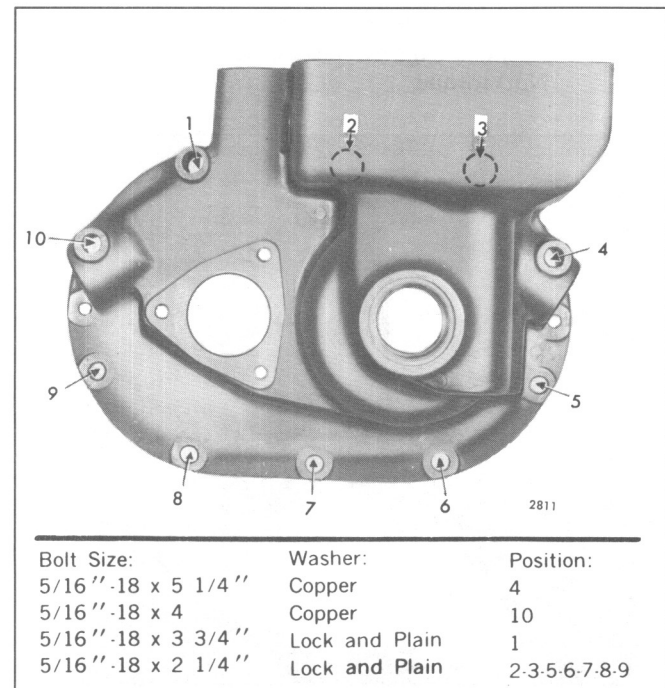

Fig. 27 – Location and Size of Governor Retaining Bolts
6. Refer to Fig. 27 for the locations, and install the bolts, lock washers, copper washers and plain washer securing the governor to the blower. Tighten the bolts to 13–17 lb–ft (18–23 N•m) torque.
2. Refer to Fig. 27 for the bolt location and install the bolts, lock washers, plain washer and copper washers which secure the governor to the blower. Tighten the bolts to 13–17 lb-ft (18–23 N•m) torque.